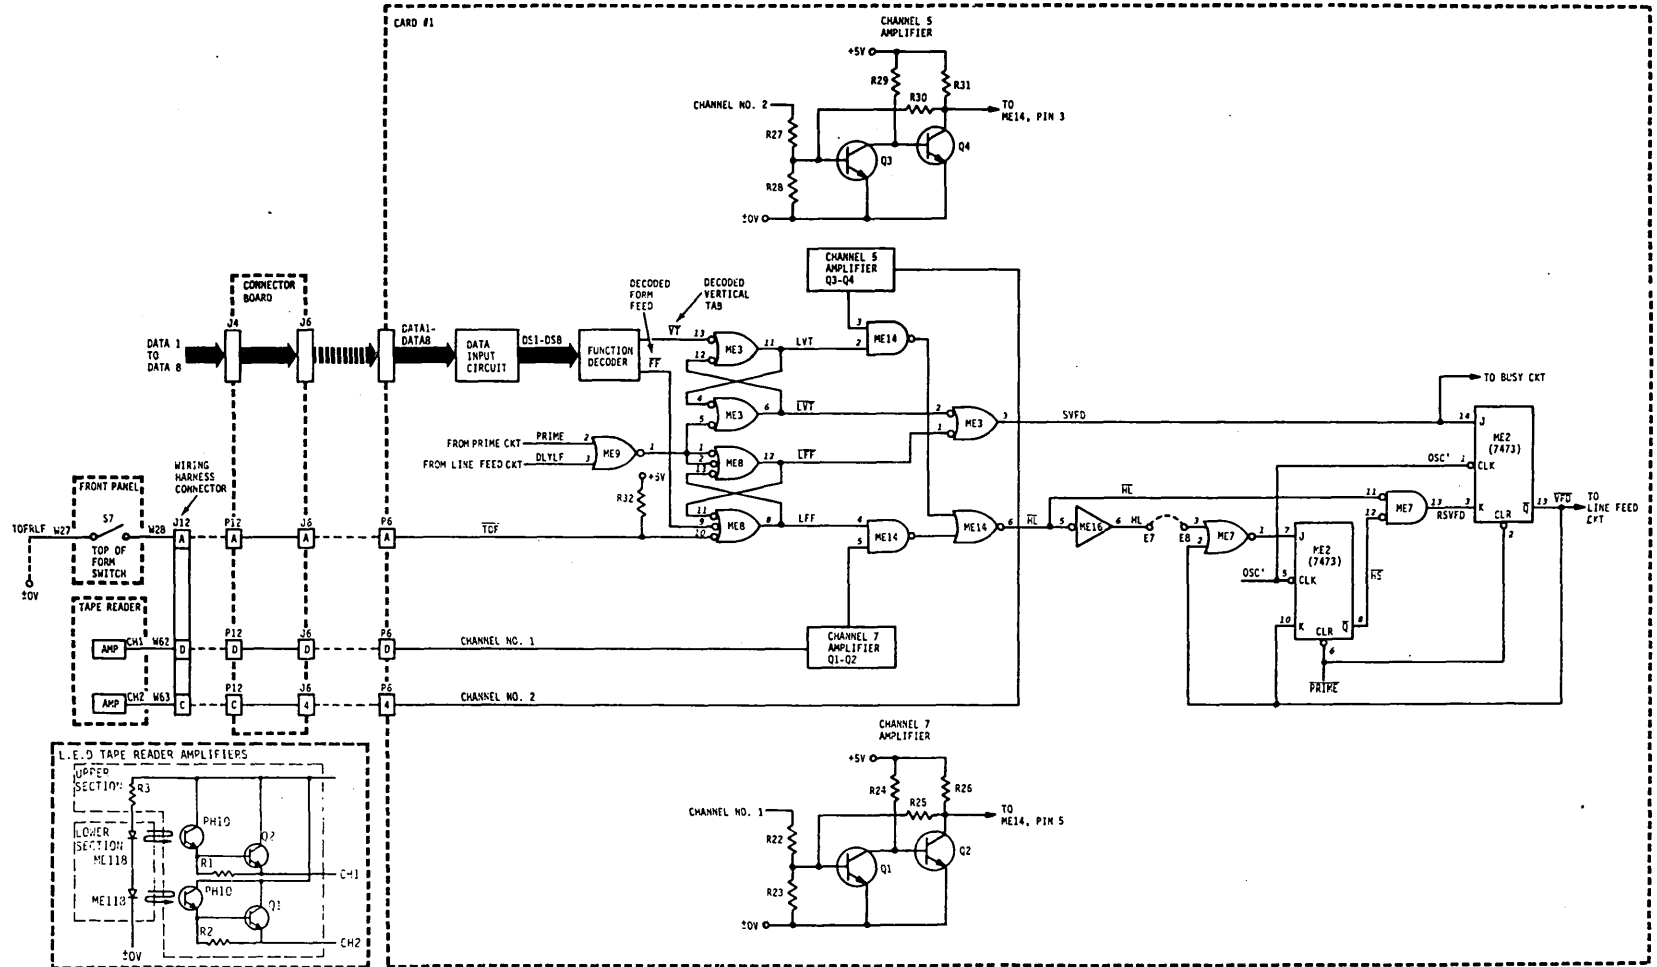
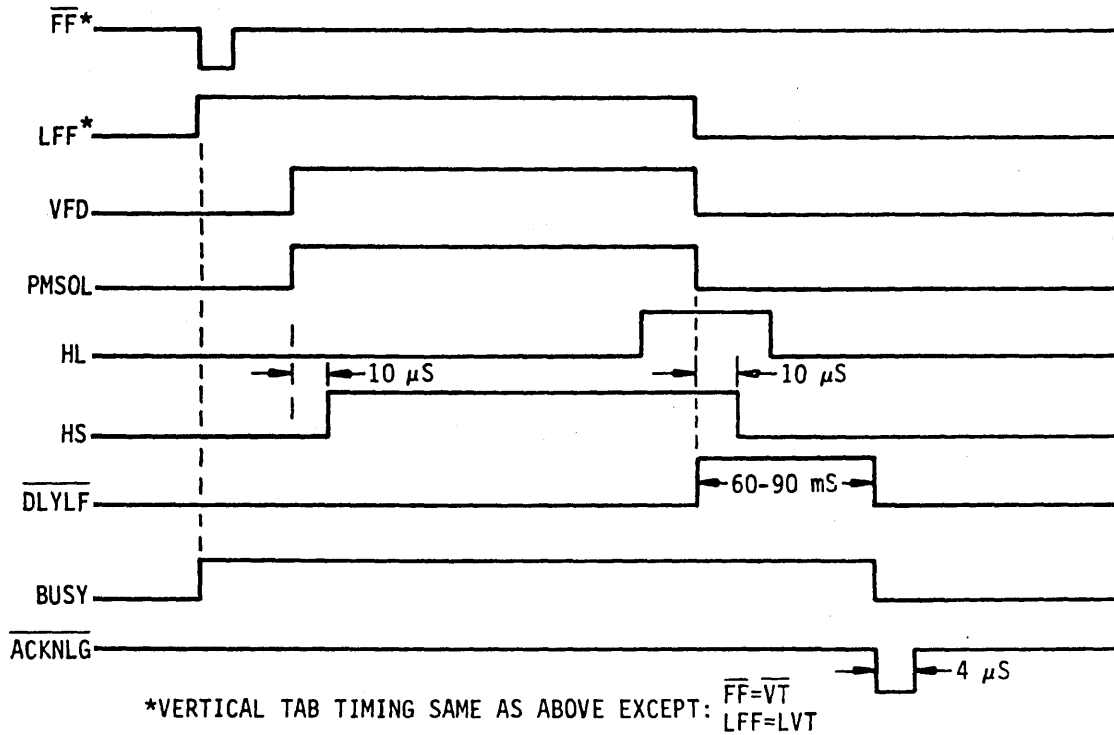

Figure 4-23. FORM FEED AND VERTICAL TAB CIRCUIT
Figure 4-24. FORM FEED AND VERTICAL TAB TIMING
4.6.2 FORM FEED (FIGURE 4-23, CIRCUIT; FIGURE 4-24, TIMING)
4.6.3 VERTICAL TAB (FIGURE 4-23, CIRCUIT; FIGURE 4-24, TIMING)
4.6.4.1 Vertical Format Control Tape Reader (Figure 4-23)
4.6.4.2 Vertical Format Control Amplifiers (Figure 4-23)